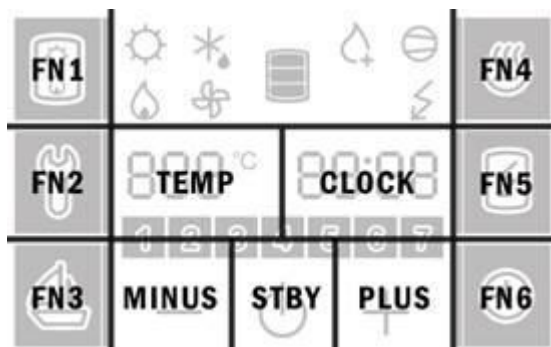

Fig. 13: Fields on the display
- By pressing the right number (the CLOCK field on Figure 13) the next parameter is displayed.